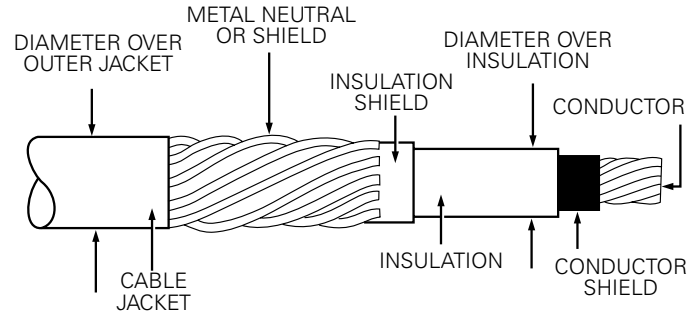

Figure 3. Illustration showing typical construction of high voltage underground cable.
**STEP 1:** Determine the cable’s diameter over the insulation as shown in Figure 3 (including tolerances) from the cable manufacturer. Then identify a cable range from Table 3 that brackets the minimum and maximum insulation diameters. Select the CABLE RANGE CODE from the far right column.